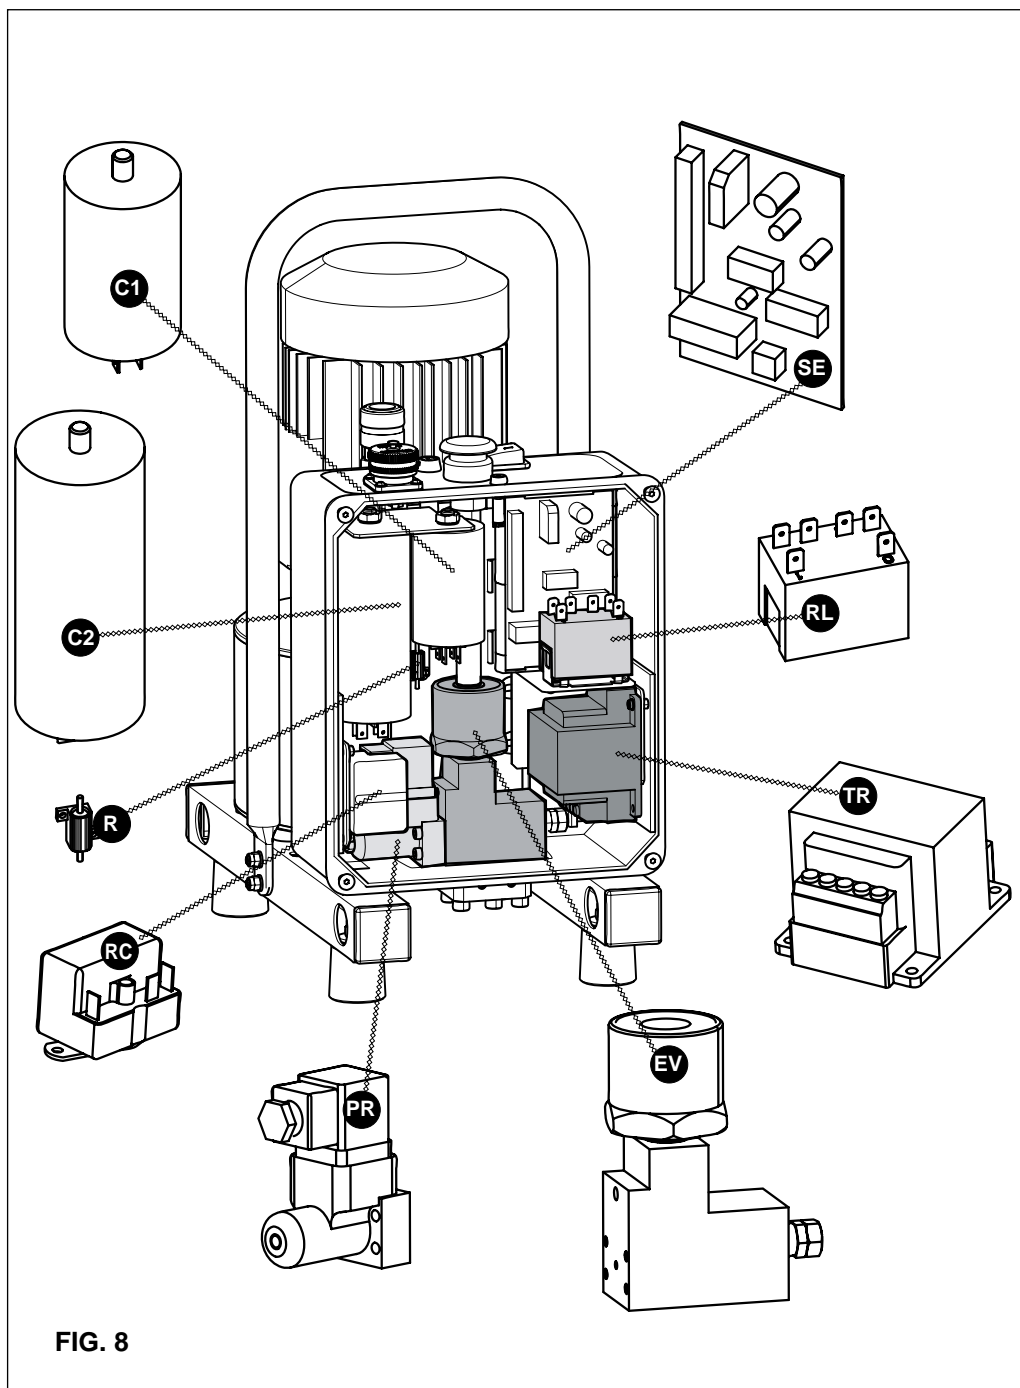

FIG. 8
5.3) Internal electrical panel components (Ref. to Fig. 8, page 37)